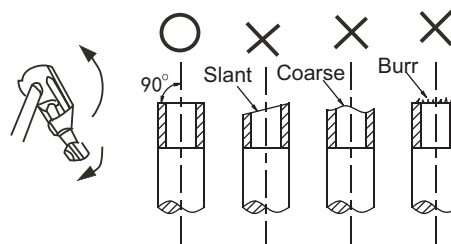

Fig. 6-4
1) Use a pipe cutter to cut off the pipe (See Fig. 6-4)